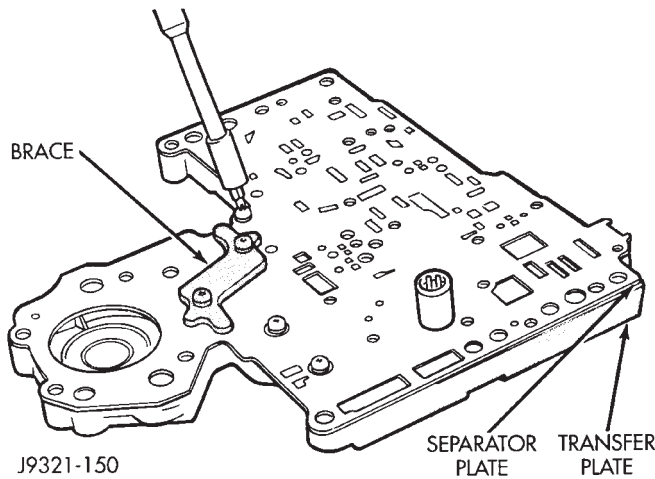

Fig. 80 Brace Plate
(3) Align and position upper housing separator plate on transfer plate (Fig. 80).
(4) Install brace plate (Fig. 80). Tighten brace attaching screws to 4 N·m (35 in. lbs.) torque.
(5) Install remaining separator plate attaching screws. Tighten screws to 4 N·m (35 in. lbs.) torque.